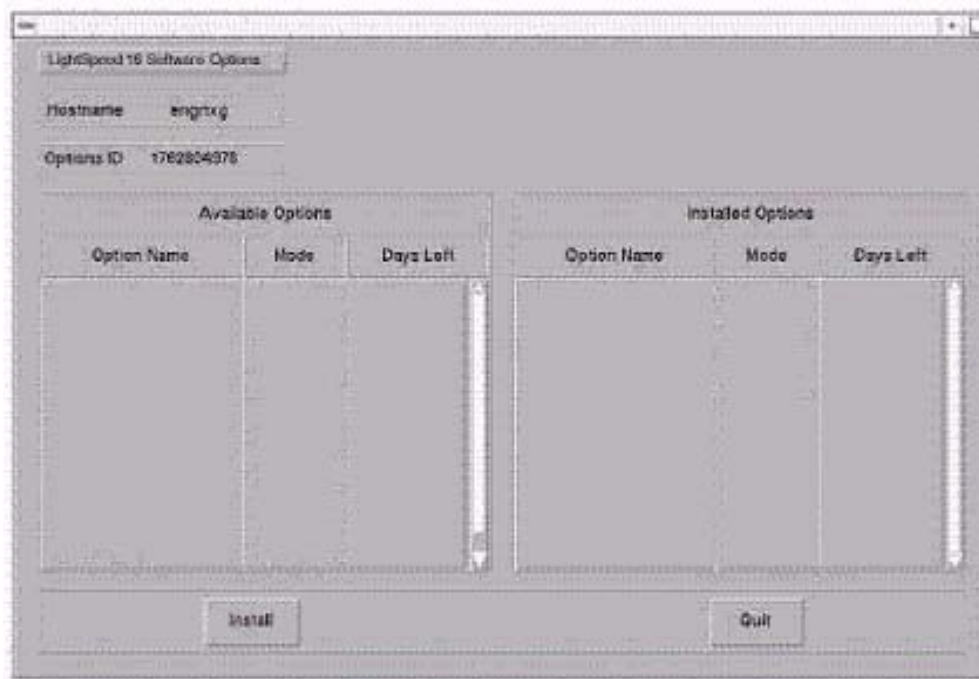

Figure 4-18 Install Options screen
- 5.) Select INSTALL OPTIONS. A blank Software Options screen (Figure 4-18) appears.